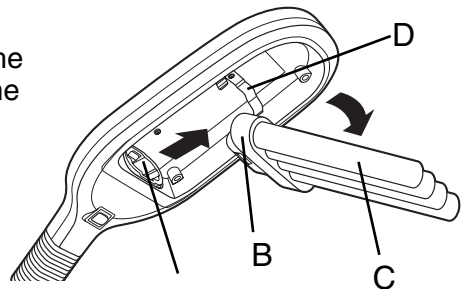

Fig. 2
- Horizontal & Vertical Surface Mount:** Remove clamp and turn the clamp screw counterclockwise until it is open slightly wider than the work surface to which you are attaching it. Clamp fits surfaces up to 1.75" thick. Surface must be a minimum of 1.5" deep for clamp to hold securely. (Figs. 2 & 3)
3. Firmly hold bulb base (B) and pull bulb (C) from the socket (A) in an outward motion. (See Fig. 2)
2. Firmly hold base (B) and push bulb (C) into the socket (A). (See Fig. 2)